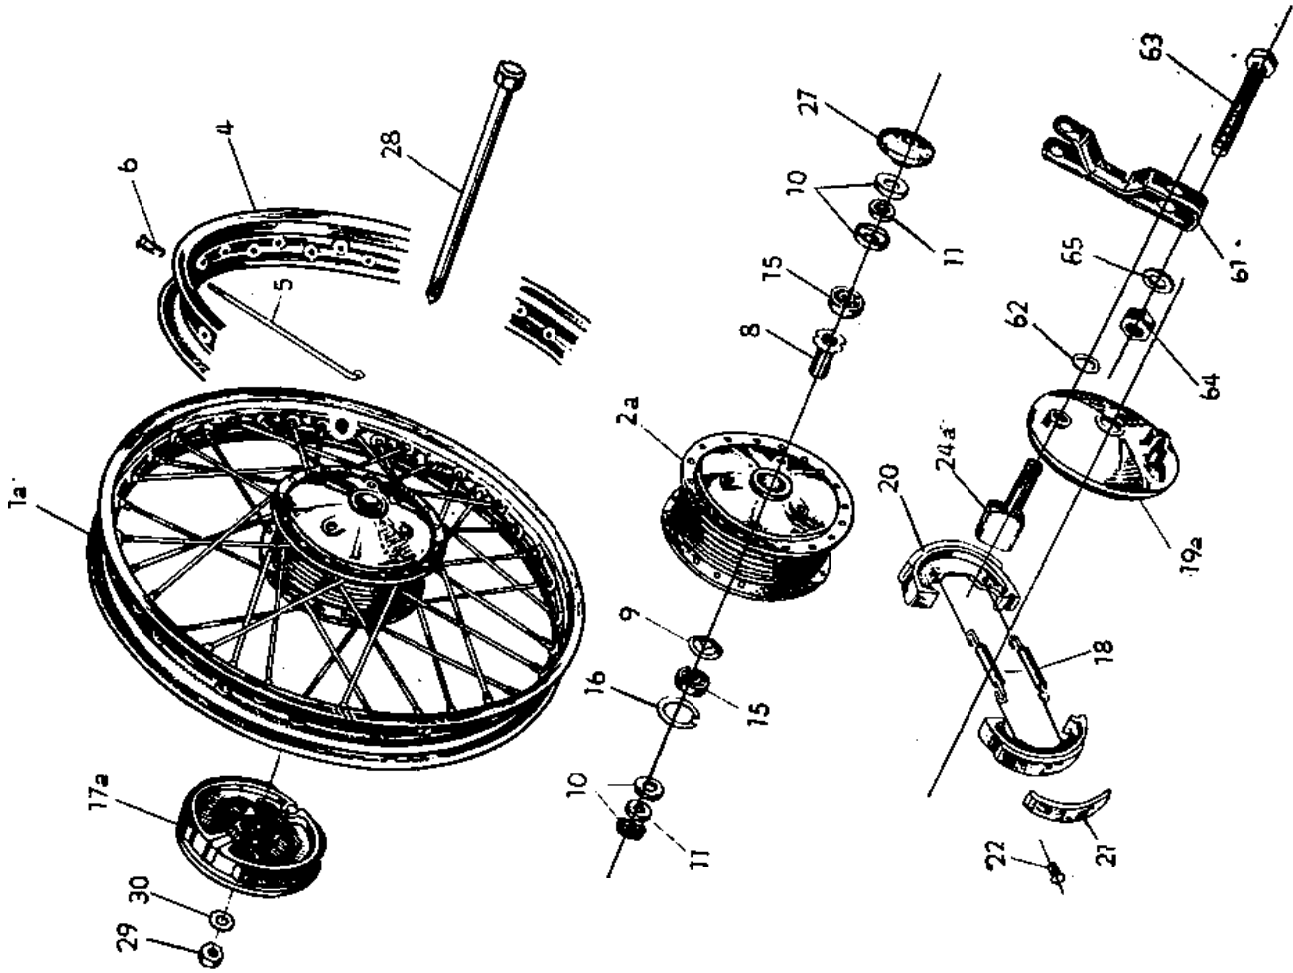

Fig. 4
### 6. Removing the front wheel (fig. 4)
8. Change of bearing in the wheels (fig. 4)
9. Dismantling the brakes (fig. 4)